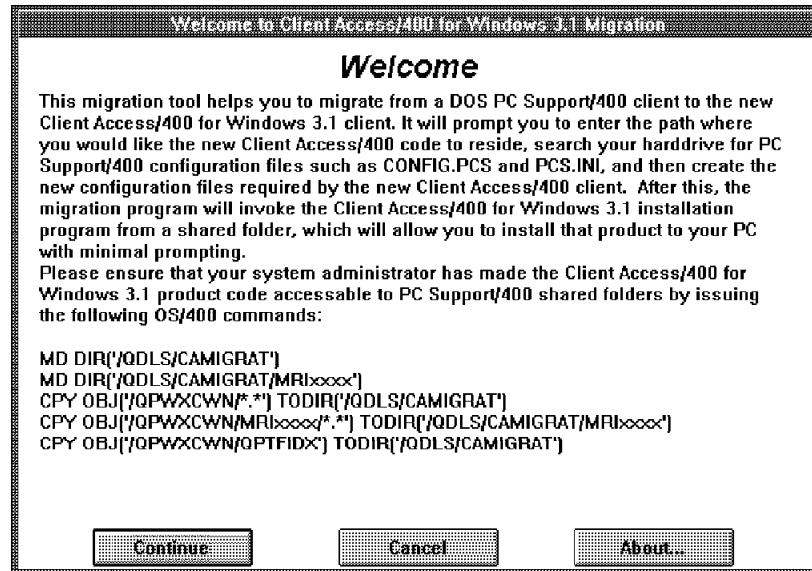

Figure 75. Migration Tool - Welcome Panel
3. You are presented with the panel shown in Figure 75 on page 244, which informs you about the tool and what steps are taken during the migration process. Note that these are steps your system administrator should have taken, and they need to be done only once on the AS/400 system.